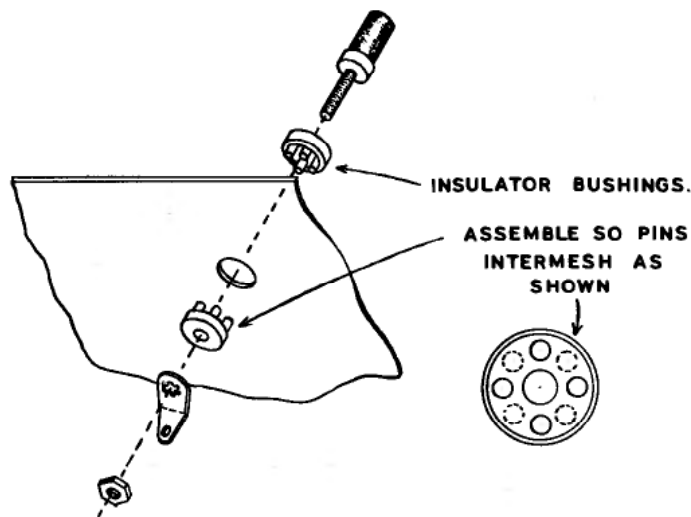

Figure 6
- () Install the four binding posts on the front panel as shown using binding post base, insulators, solder lugs and 6-32 nuts. See Figure 6 and Pictorial 1.